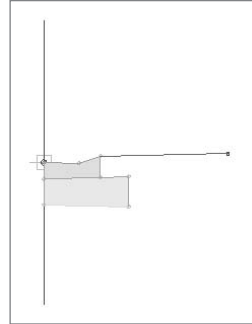

Figure A.72
2. Zoom in on the assemblies, and locate the Intersection or Cul-de-Sac assembly. Note that the assembly does not yet include a lane, as shown in Figure A.72.